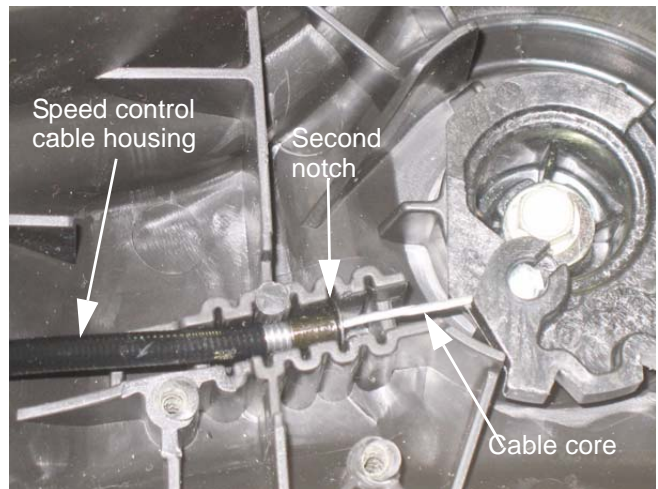

Figure 5.10
7. Pull the cable housing free of the control panel. The stop at the end of the cable housing is usually placed in the notch that is second-nearest the control lever assembly. See Figure 5.10.